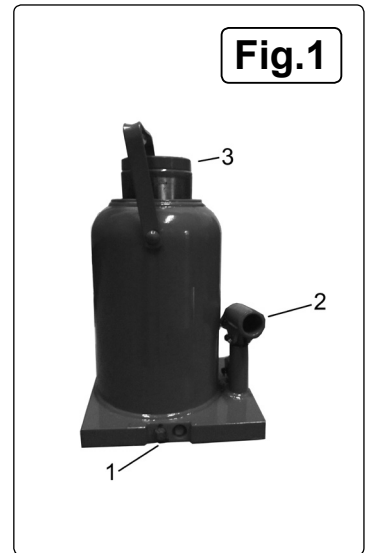

Fig.1
- 4.1. Before using the jack, purge the hydraulic system, in order to eliminate any air that may have accumulated during transit, referring to fig.1 as follows:
- a) Fit jack handle over release valve (1) and turn anti-clockwise to open valve.
- b) Insert jack handle into the handle sleeve (2) and pump several times to ensure full internal lubrication and to bleed air from the system.
- c) Fit jack handle back over the release valve (1) and turn clockwise to close.